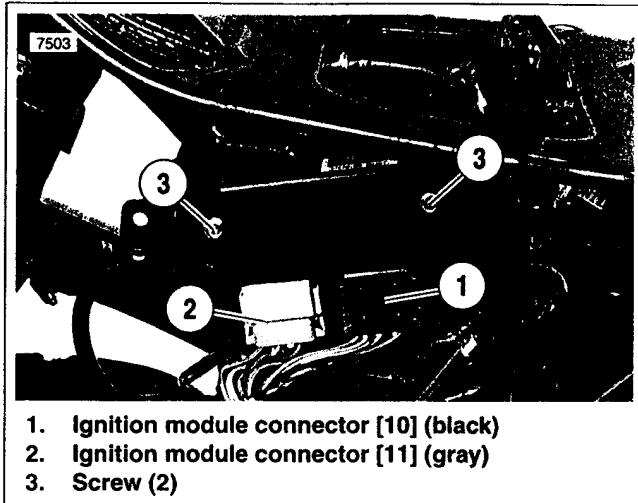

Figure 8-11. Ignition Module
2. See Figure 8-11. Remove two screws (3) to free ignition module from mounting bracket.
1. See Figure 8-11. Attach ignition module connectors.
- b. Secure ignition module using two screws (3). Tighten to 15-21 in-lbs (1.7-2.4 Nm).